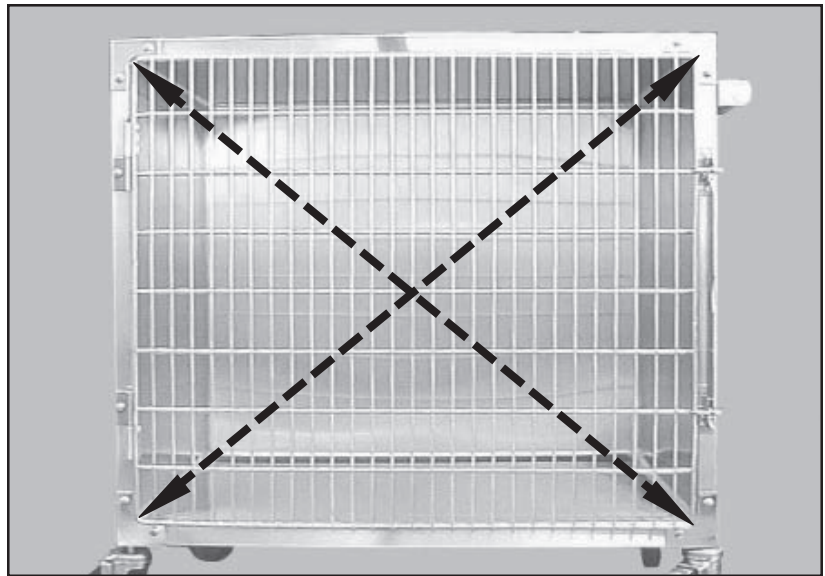

Figure 22. Measuring the Door for Deformation
1. Measure the door diagonally from upper-right to lower-left (Figure 22) and record the dimension. Then, measure it again from upper-left to lower-right and record that dimension.